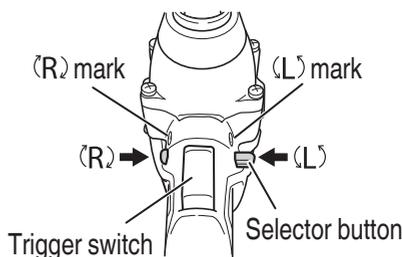

Fig. 6
The bit rotates clockwise (viewed from the rear side) by pushing the R-side of the selector button. The L-side of the selector button is pushed to turn the bit counterclockwise (See Fig. 6) (The (L) and (R) marks are provided on the body).